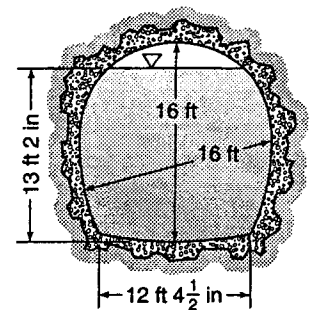

Figure X10.3.5
10.3.5 Figure X10.3.5 shows a tunnel section on the Colorado River Aqueduct. The area of the water cross section is 191 ft^2 , and the wetted perimeter is 39.1 ft . The flow is 1600 cfs . If $n = 0.013$ for its concrete lining, find the slope.